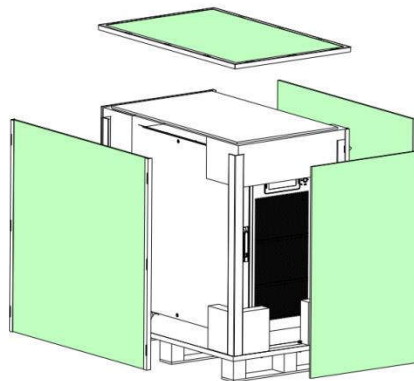

Figure 3-2 Disassemble the case
3. Unpack the package as shown in Figure 3-2.